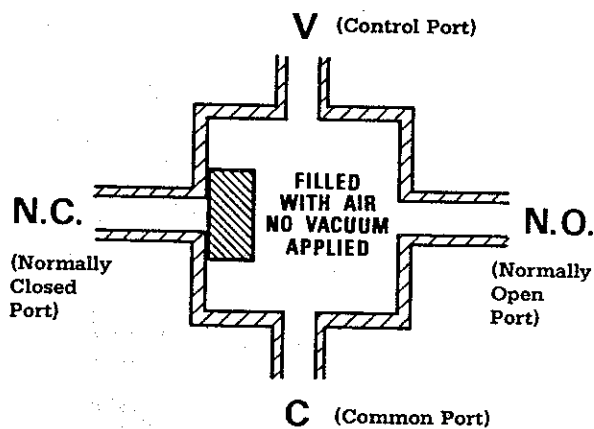

Figure 2
The heart of the Intermittent Suction Unit is the Unilogic Module which contains four component gates. The component gates are numbered for reference and discussion. The Unilogic Gate is a two state device like an on-off switch. In the example in Figure 2, the common (C) port is connected to the normally-open (N.O.) port, with no vacuum applied to the control port (V). The normally closed port is blocked by the valve as shown.